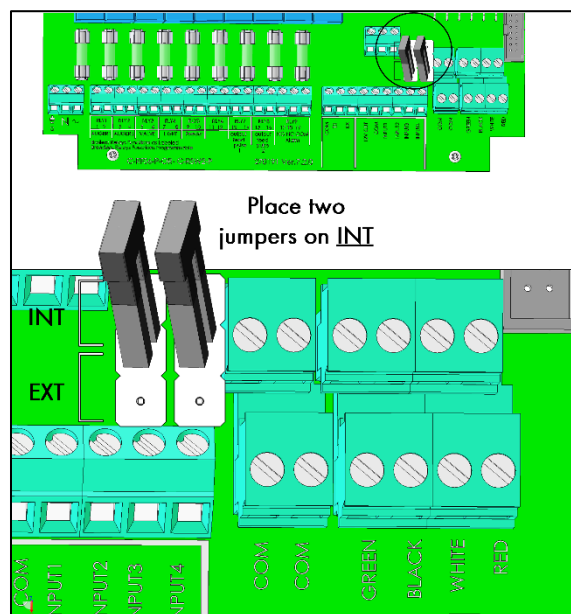
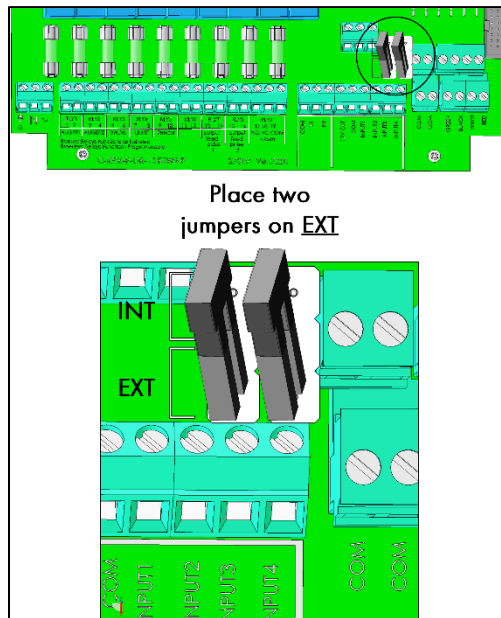

Figure 9: RSW-2 Jumpers set to Internal Power Supply
Figure 11: RSW-2 Jumpers set to External Power Supply)
- In both cases, jumpers must be set correctly (Figure 9 and Figure 11).